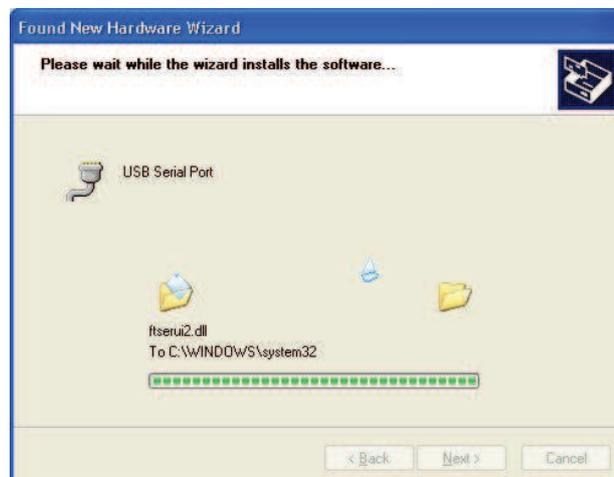

Figure 2.11
- The screen shown in Figure 2.11 will be displayed as Windows XP copies the required driver files.